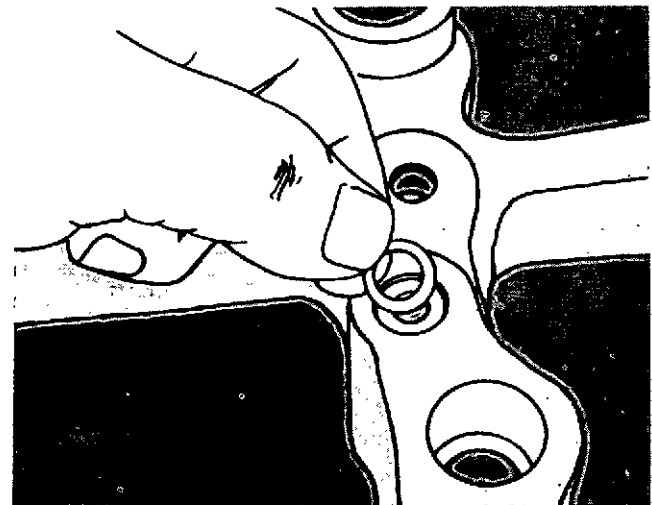

Fig. 20-7. Install The Rubber Seal Into The Jacobs Brake Unit.
15. Install the rubber seal into the hole in the bottom of the Jacobs Brake unit. The hole is located approximately in the center of the side that installs against the rocker lever housing, Fig. 20-7. Apply a light coat of clean grease or lubriplate onto the rubber seal to hold the seal into the hole.